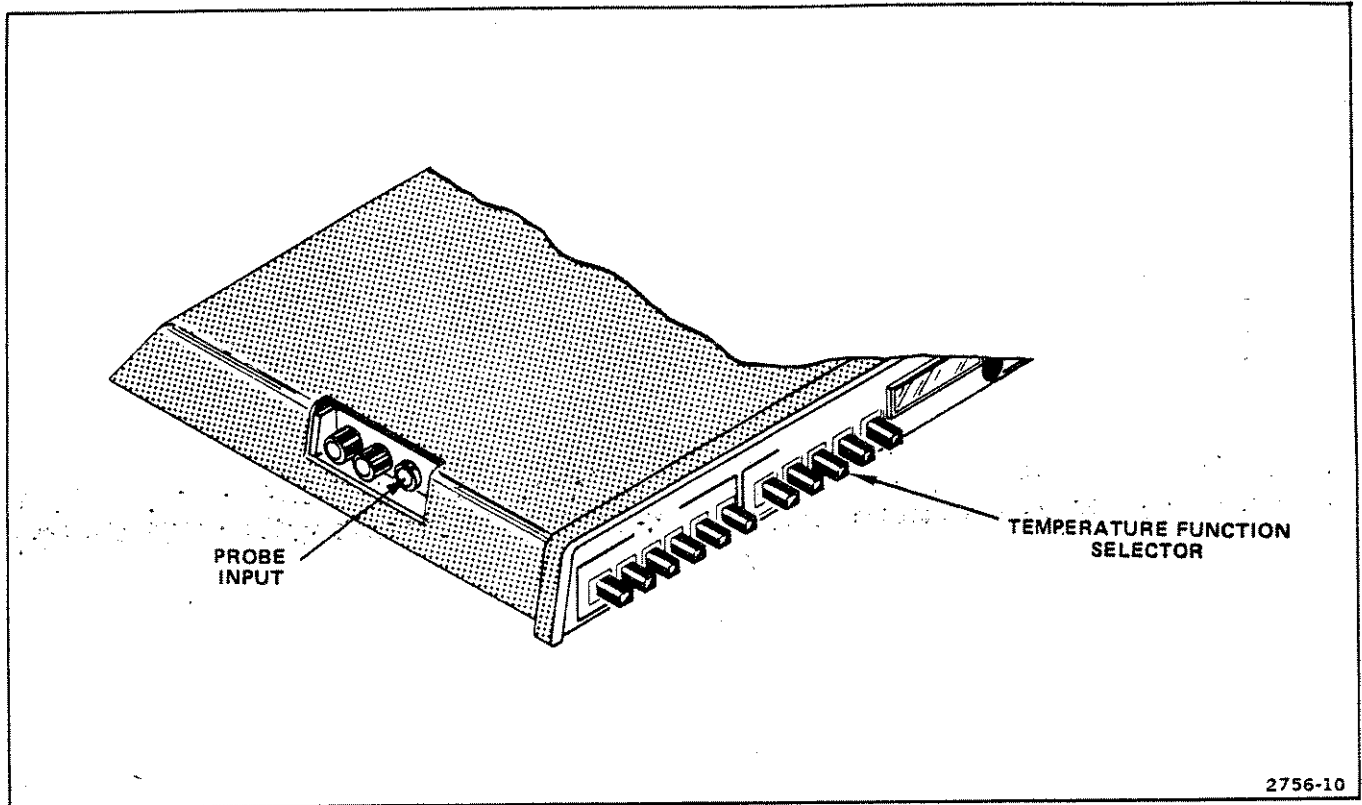

Figure 10. Temperature measurement.
1. Press the TEMP ($^{\circ}$ C) FUNCTION push button (see Figure 10).
To prevent possible probe damage, ensure that only the sealed portion of the probe is immersed (see Figure 10).